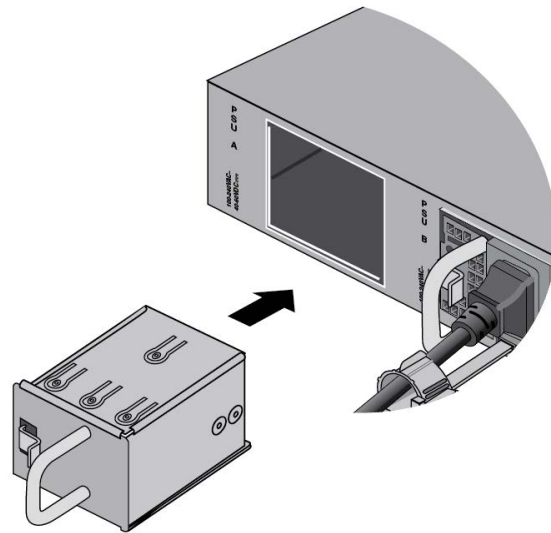

Figure 135. Installing the Blank Power Supply Cover
7. Orient the blank power supply cover as shown in Figure 135 on page 207 and slide it into the slot until it clicks into place.
9. Orient the blank power supply cover as shown in Figure 135 on page 207 and slide it into the slot until it clicks into place.